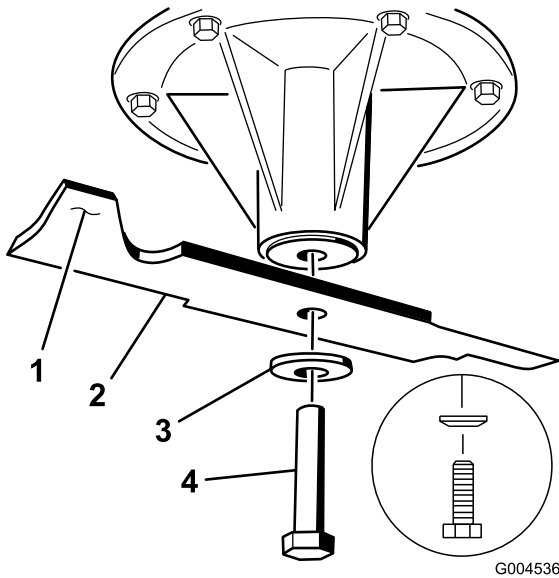

Figure 67
2. Remove the blade bolt, curved washer, and blade from the spindle shaft (Figure 67).